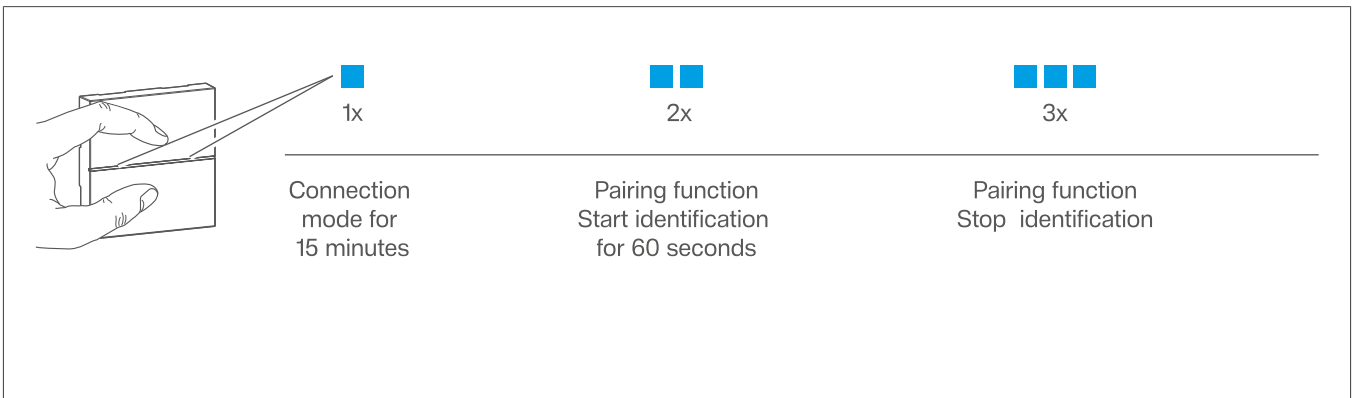

Fig. 7: Establishing a connection with the buttons
- 2 Within 10 seconds, select the desired LED operating mode by briefly pressing both buttons (see Fig. 7: Establishing a connection with the buttons).